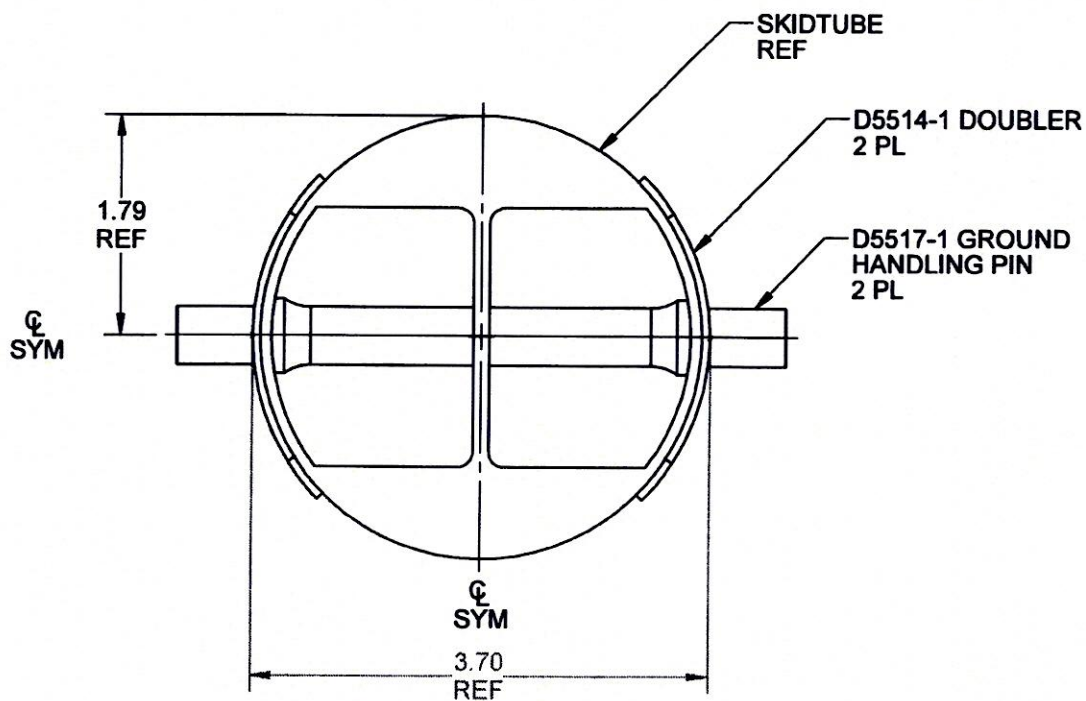

FIGURE 2
- 2.5 Ensure that the doubler is properly positioned on the skidtube. Test fit the doubler and D5517-1 Ground Handling Pins (hereinafter referred to as pin(s)). Reference Figure 2 of this service instruction.
- 2.16 Ensure that the doublers and pins remain properly aligned per Figure 2 of this service instruction.